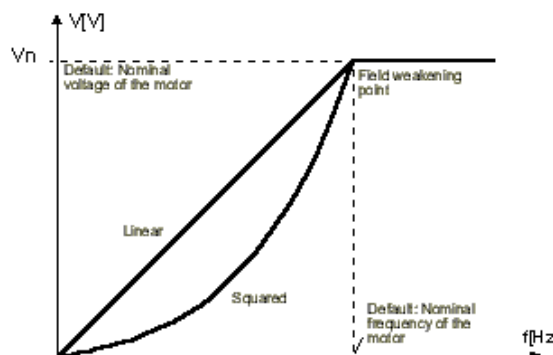

Figure 5-2: Linear and Squared V/Hz Curves.
- 0 "Linear V/Hz ratio" — The voltage of the motor changes linearly with the frequency in the constant flux area from 0 Hz to the field weakening point (parameter 6.3), where the nominal voltage is also supplied to the motor. See figure 5-2. A linear V/Hz ratio should be used in constant torque applications. **This default setting should be used if there is no special need for another setting.**
- 1 "Squared V/Hz ratio: — The voltage of the motor changes following a squared curve, with the frequency in the area from 0 Hz to the field weakening point (parameter 6.3), where nominal voltage is also supplied to the motor. See Figure 5-2.